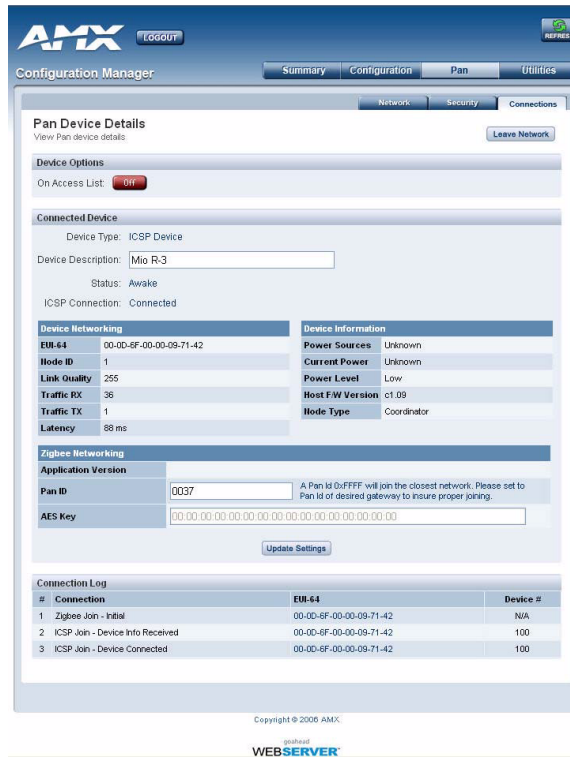

FIG. 12 PAN Device Details Page
2. The EUI address is located in the *Connections* table under "EUI-64". Click on the EUI address to open the *PAN Device Details* page for this device. (See FIG. 12)
Clicking on the EUI-64 number in the Device Firmware page will open the device's PAN Device Details page (see FIG. 12).
Clicking on the EUI-64 number in the Connection Log page will open the device's PAN Device Details page (see FIG. 12).
Clicking on the EUI-64 number in the Traffic Log page will open the device's PAN Device Details page (see FIG. 12).